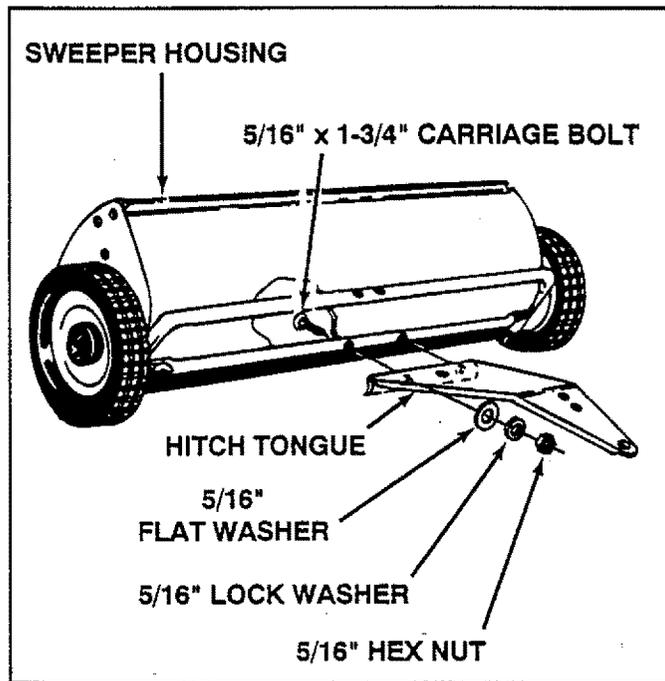

FIGURE 3
1. Remove the 5/16" hex nuts, 5/16" lock washers and 5/16" flat washers from the two 5/16" x 1-3/4" carriage bolts as shown in figure 3. Assemble the hitch tongue to the sweeper, reusing the same two carriage bolts, flat washers, lock washers and hex nuts. **Do not tighten at this time.**
4. Tighten (do not overtighten) the two bolts assembled in step 1, making sure the brace rod is pulled tight under the large flatwasher and against back bolt of hitch bracket. See figures 3, 4 and 5. Now tighten all other bolts assembled in steps 2 and 3.